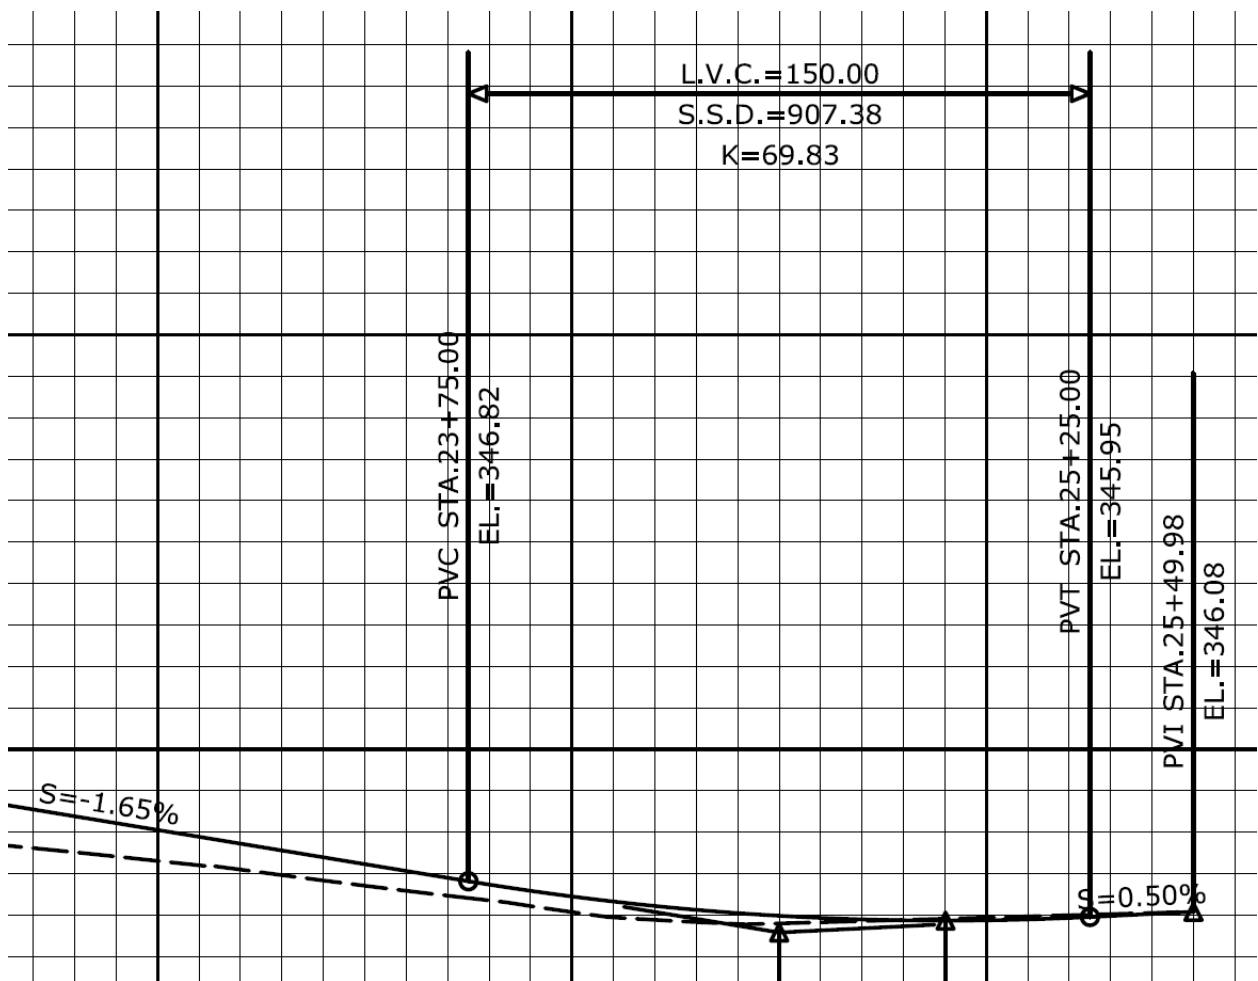

Figure 5-5 MicroStation Screen Shot of InRoads Annotated Vertical Alignment
- C. In the annotation box, ensure your discipline specific preferences are loaded, for this lab Highway. Click **Apply**. The vertical alignment is annotated. Click **Close**. Figure 5-5 displays an annotated vertical alignment.